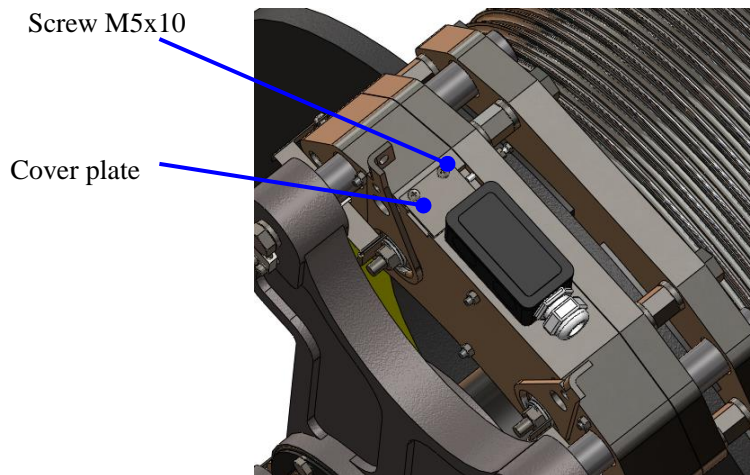

Figure 54: Install cover plate
7. Install the cover plate on the brake body with tighten the screws M5x10 using a Phillips head screw driver. Apply Loctite 271 between the screw heads and the cover plate, then use torque screw driver to tighten the bolt to 35in-lb. See Figure 54.